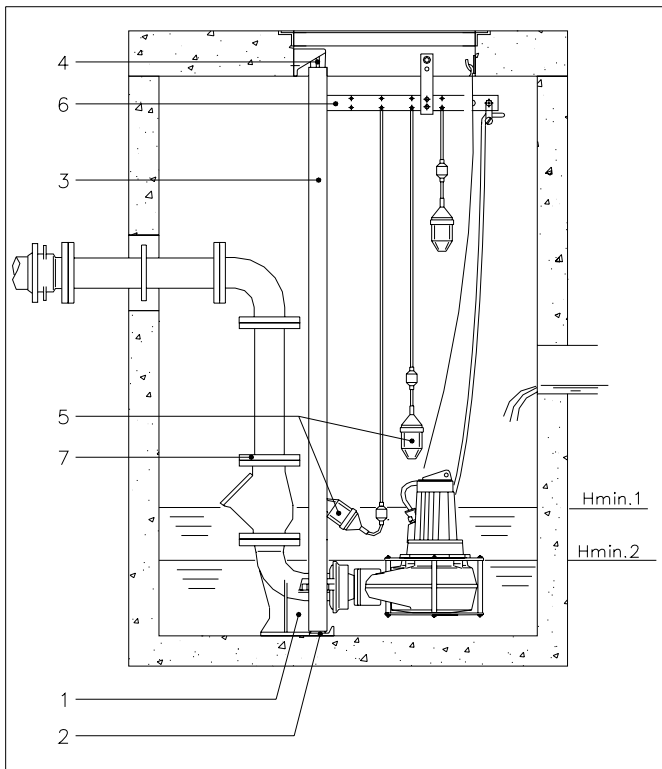

Fig. 6.3
- Check that the motor is adequately cooled. The motorhousing should be at least 2/3 submerged for continuous operation at full load (see Hmin. 1 Fig. 6.3). It is good practice, whenever possible to keep the motorhousing completely under water.
We recommend not to run the pump with the water level below the top of the volute in order to avoid air being drawn in (see Hmin.2 Fig. 6.3).